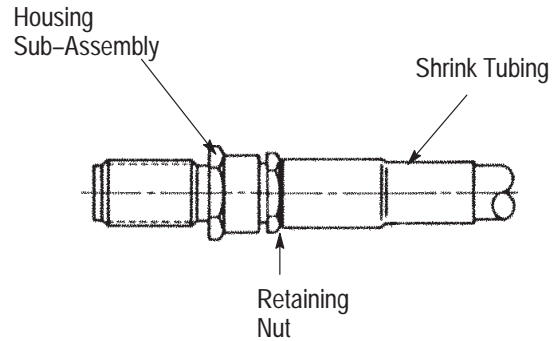

Figure 6
### 3.4. Securing the Housing to the Inner Sleeve Sub-Assembly and Shrink Tubing (Figure 6)
3. Position the shrink tubing over the ferrule as shown in Figure 6.